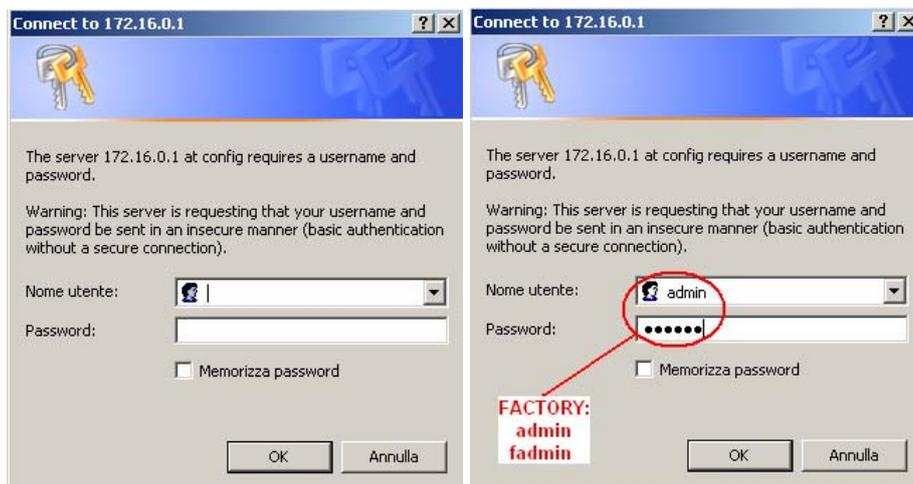

Figure 8.a – Authentication dialogue box for accessing the Administrator area
3. If the page appears as shown in Figure 3.i, click the "Go to Administrator area" link. An authentication dialogue box similar to the one shown in Figure 8.a below will be opened. Continue as described in paragraph 8.2.1 on page 36.
If there are no problems, an authentication dialogue box similar to the one shown in Figure 8.a below will be opened. Continue as described in paragraph 8.2.1 on page 36.
Following the previous points, an authentication dialogue box is displayed on the PC screen (Figure 8.a on page 35); complete the fields with the access information, then select OK.